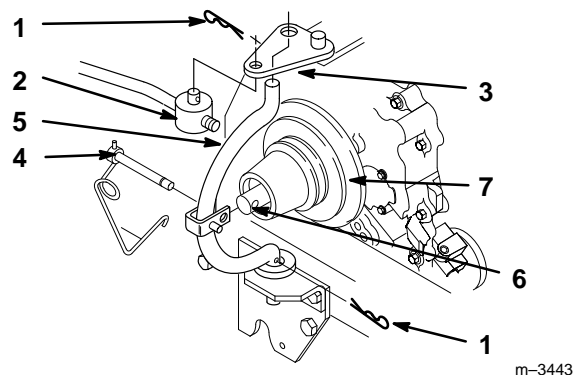

Figure 13
4. Remove hairpin cotters from trunnion and bottom of yoke (Fig. 13).
5. Unlatch and remove locking clevis pin that secures yoke assembly to clutch shaft. Pivot yoke out and forward to remove from clutch shaft and engagement plate (Fig. 13).
6. Remove belt from pulley (Fig. 13).
7. Assemble yoke and engagement plate and attach locking clevis pin, trunnion and hairpin cotters to secure (Fig. 13).